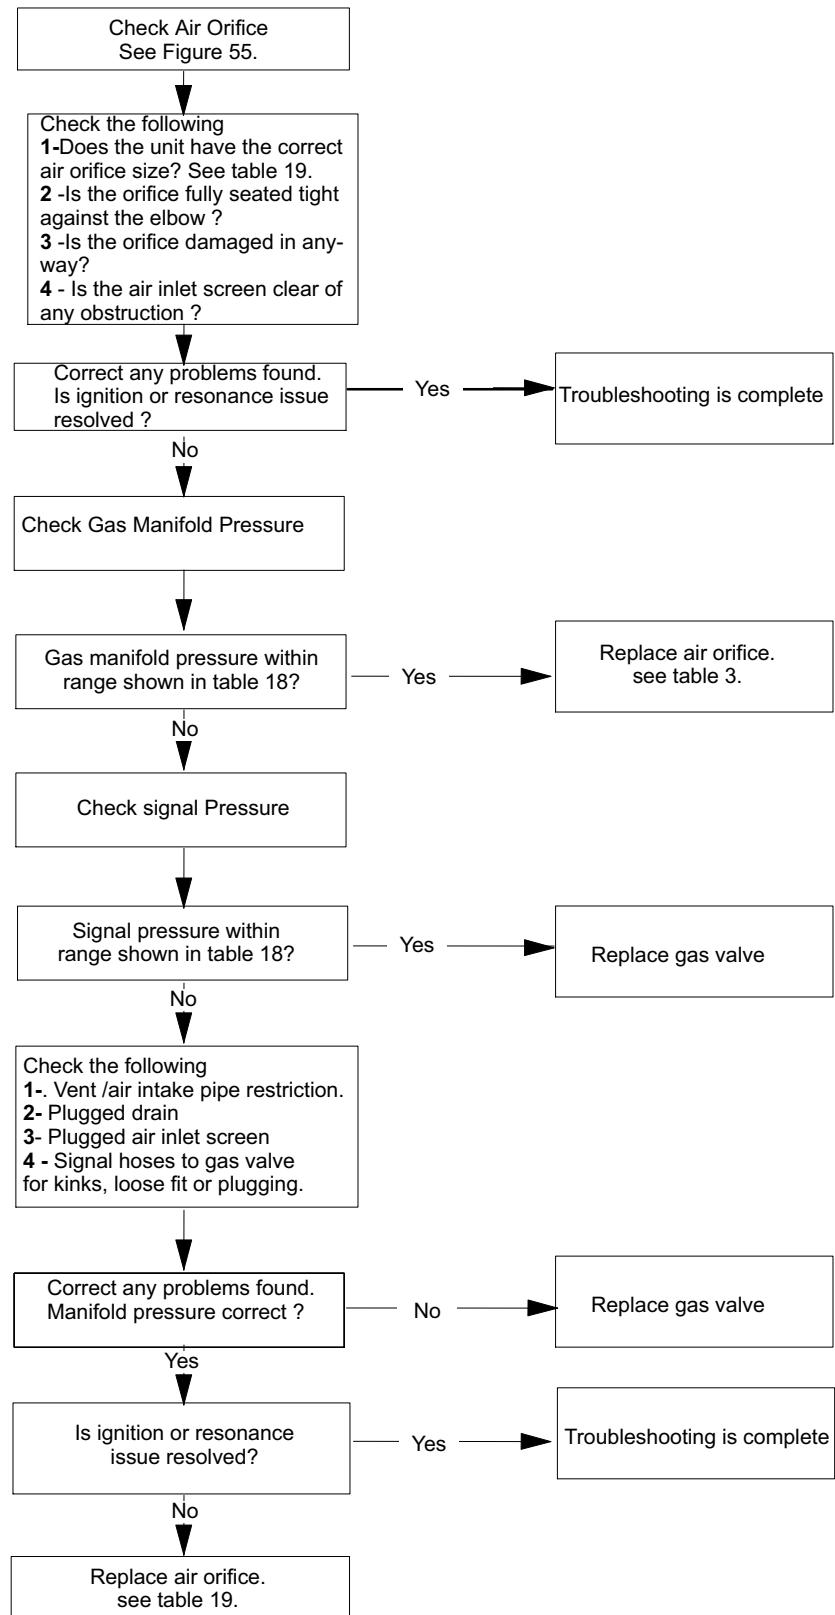

FIGURE 57
- 10 - Repeat manifold and signal pressure check. If unit ignites and manifold and signal pressure are correct, move on to combustion check. If unit still does not ignite or ignites with loud resonance go to Troubleshooting figure 57.